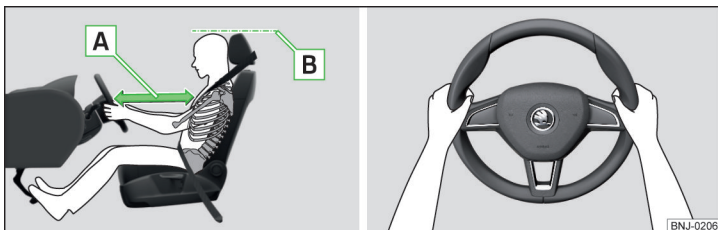

Fig. 14 **Correct seated position for the driver/correct steering wheel position**
- ✓ Adjust the steering wheel so that the distance between the steering wheel and your chest is at least 25 cm » Fig. 14 - A.
- ✓ Adjust the headrest so that the top edge of the headrest is, where possible, at the same level as the upper part of your head (not for seats with integrated headrests) » Fig. 14 - B.
- When driving, hold the steering wheel with both hands firmly on the outer edge in the "9 o'clock" and "3 o'clock" position » Fig. 14. Never hold the steering wheel in the "12 o'clock" position or in any other way (e.g. in the middle, inner edge of the steering wheel or similar). Otherwise, you could sustain serious injury to the arms, hands and head if the airbag is activated.
- ✓ Adjust the head restraint so that the top edge of the head restraint is at the same level as the upper part of your head » Fig. 14 on page 19 -  (not for seats with integrated headrest).
- ✓ Adjust the head restraint so that the top edge of the head restraint is, where possible, at the same level as the upper part of the head » Fig. 14 on page 19 - .